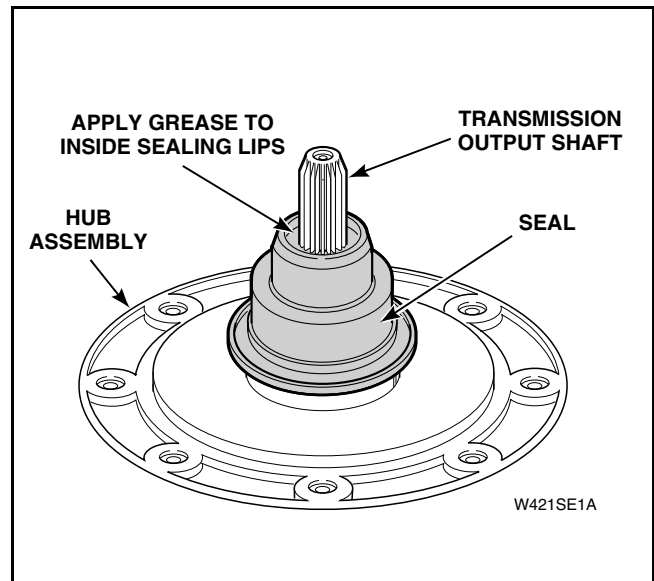

Figure 34
- n. Lubricate new seal with liquid soap or soapy water to aid in assembly of seal onto hub. Refer to *Figure 34*.
- o. Apply a small amount of supplied grease, No. 36765P, to inside sealing lips of seal. Refer to *Figure 34*.